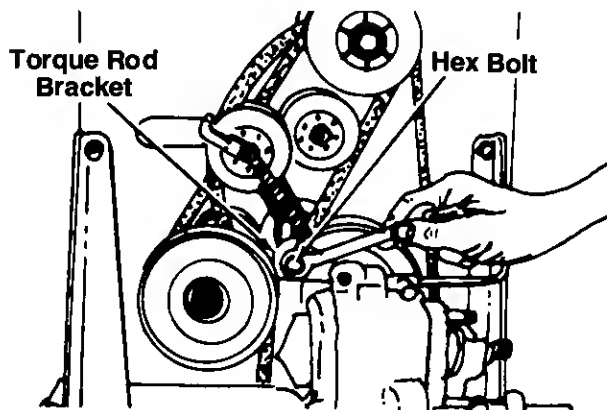

FIGURE 17.
4. Remove the hex bolt, nut and lock washer at the torque rod bracket and transaxle. See figure 17.
5. Remove the hex bolt which holds the torque rod bracket to the torque rod, and remove bracket. See figure 17.